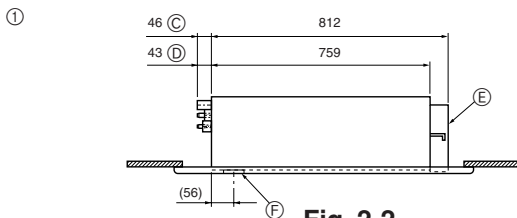

Fig. 2-2
2.1. Refrigerant and drainage piping locations (Fig. 2-2)
- ① Viewed from point A